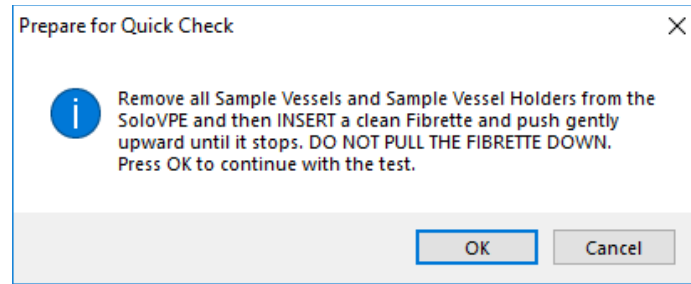

Figure 39. Prepare for Quick Check window prompt and requirements.
3. Quick Check will present a prompt instructing the user on how to prepare the Fibrette Optical Component and SoloVPE System for the test (see Figure 39). It is critical that the test is run under the following conditions: